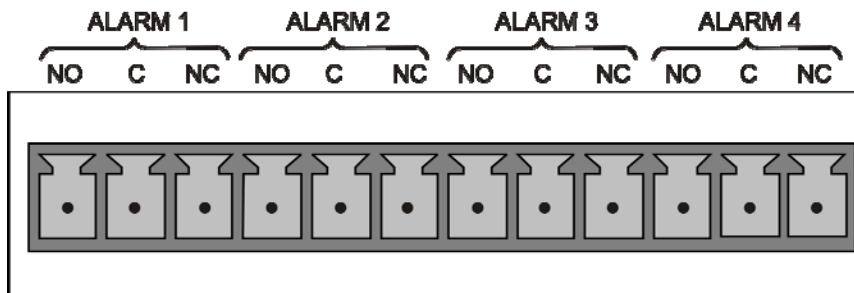

Figure 5-19: Concentration Alarm Relay
The Teledyne API “E” series analyzers have an option for four (4) “dry contact” relays on the rear panel of the instrument. This relay option is different from and in addition to the “Contact Closures” that come standard on all TAPI instruments. The relays have 3 pins that have connections on the rear panel (see Figure 5-19). They are a Common (C), a Normally Open (NO), & a Normally Closed (NC) pin.